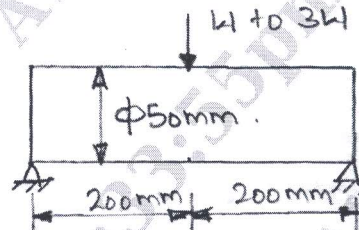

Fig. Q4 (b)
- b. Determine the max. load for a simply supported beam cyclically loaded as shown in Fig. Q4 (b). The beam material has ultimate strength $\sigma_u = 700 \text{ MPa}$, yield strength $\sigma_y = 520 \text{ MPa}$ and fatigue strength in reversed bending $\sigma_{-1} = 320 \text{ MPa}$. Use FoS = 1.25. The load, size and surface correction factors are 1, 0.75 and 0.9 respectively.